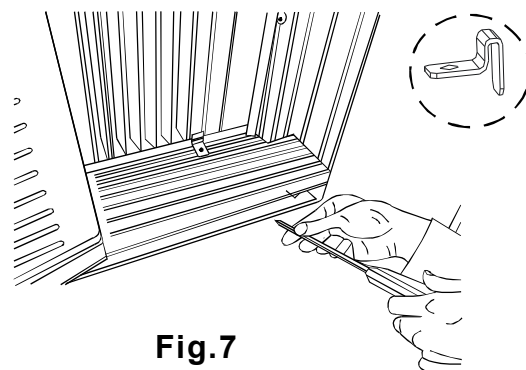

Fig. 7
- A. Place the frame lock between the frame extensions and the window sill as shown (Fig. 7). Drive $3/4$ " (19mm) or $1/2$ " (12.7mm) locking screws through the frame lock and into the sill.